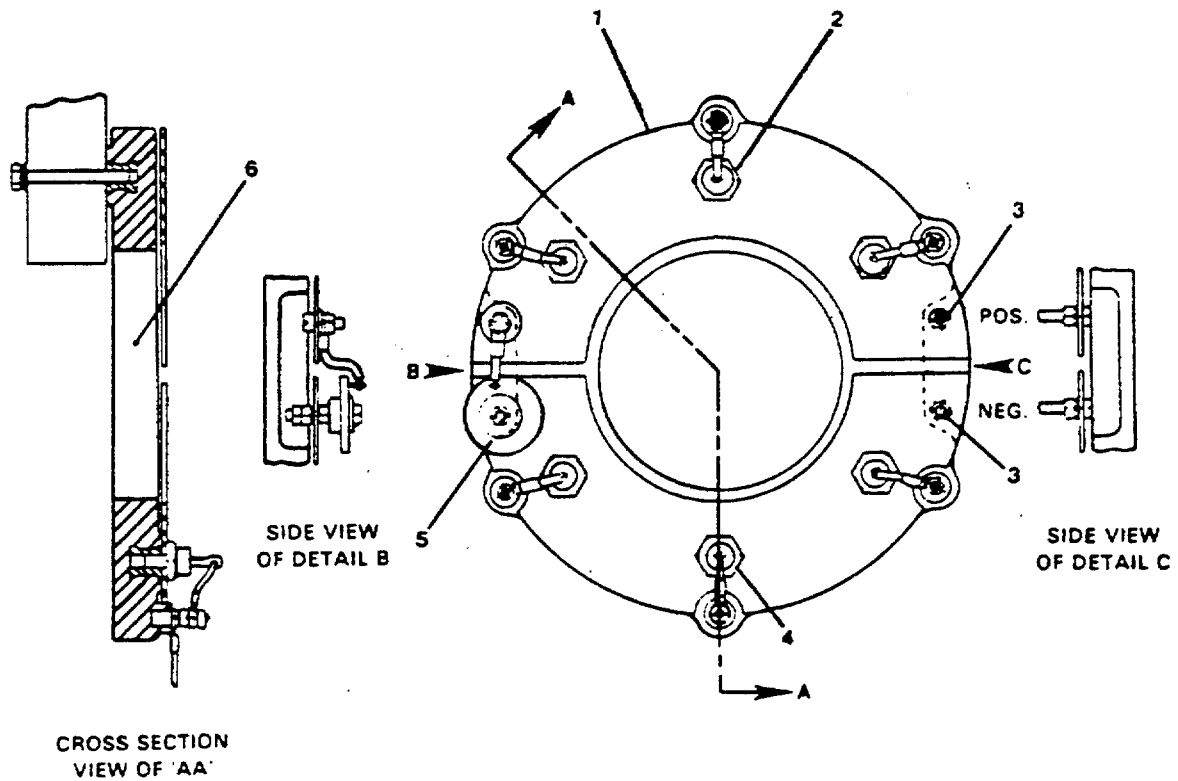

FIGURE 4-4. Rectifier Assembly
- (1) Tag and disconnect the wiring to the rectifier assembly (Figure 4-4).
- (2) Remove the diodes (2, 4) from the rectifier assembly (1). Refer to paragraph 3-13.
- (3) Disconnect the lead and remove the varistor lead assembly (5).
- (4) Remove the nut and washers at points (3) from the positive and negative plates. Remove the plates from the molded base (6).
- (3) Disconnect the terminal lead and remove the varistor (5, Figure 4-4).
- (4) Install the new varistor and tighten nut to 36-42 in-lb (4.8 Nm) torque. Connect the terminal lead.